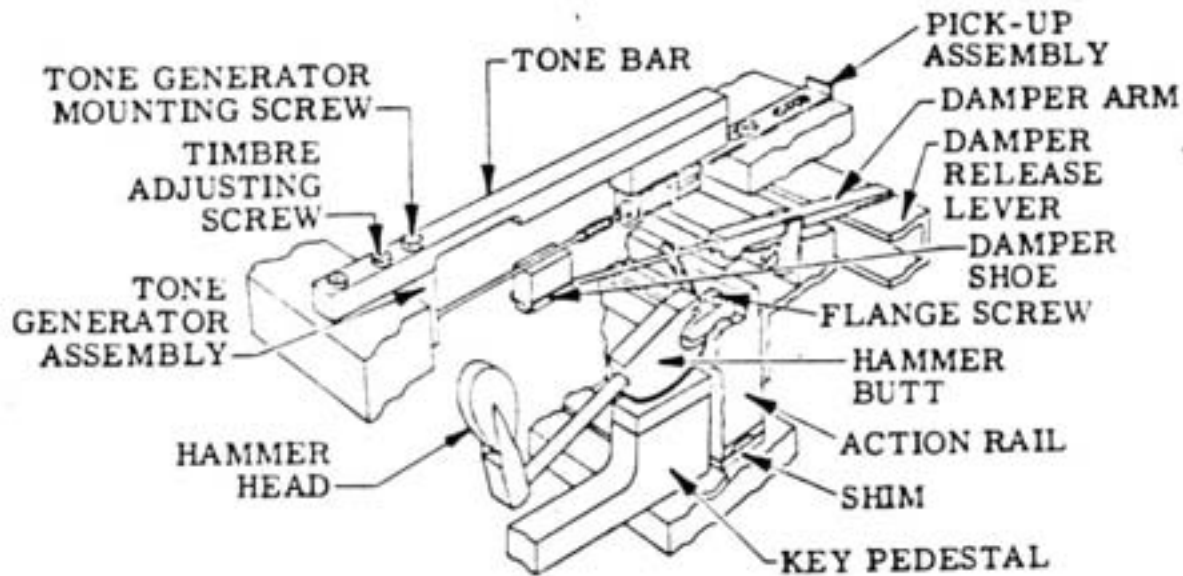
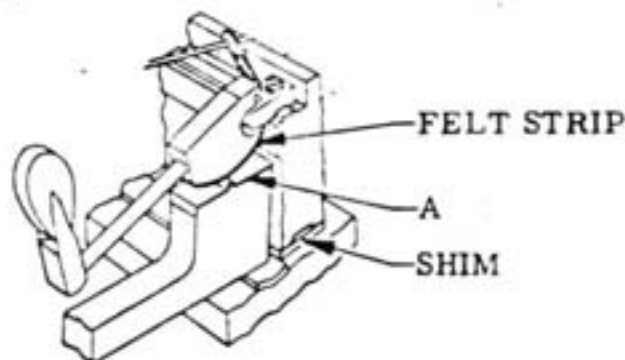
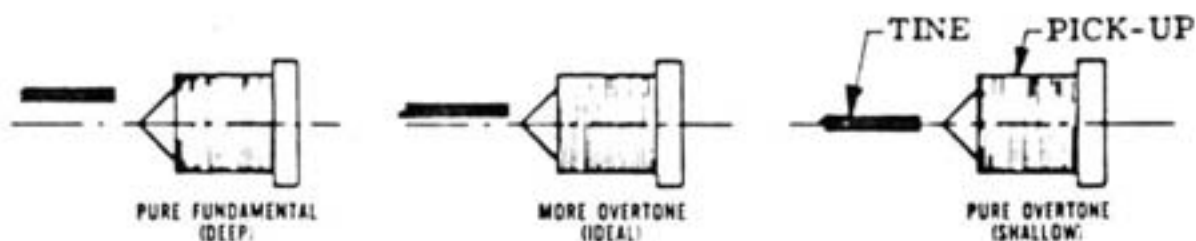

Figure 1
Figure 2
FIGURE 16
The original Hammer Assembly appeared as shown in Figure 1.
An interim change involved the insertion of an aluminum clip (A, Figure 2) on top of the Key Pedestal. This was done to increase the acceleration of the old Hammer design.
1. Suppose you have a Piano of the vintage depicted in Figure 1 and wish to bring it up to current sound standards. Proceed as follows:
1. Remove all Damper Shoes by sliding forward (Figure 1).
8. Carefully peel off the red woven Felt from the cam curve of the old Hammers, exercising care to leave a smooth, clean surface, and cement to the top of the Key Pedestal. This applies whether the Key is as shown in Figure 1 or Figure 2.
1. Remove all Tone Generator Assemblies by removing all Tone Generator Mounting Screws (Figure 1).
- Adjust Timbre Adjusting Screw (Figure 1) until working edge of Tine rests on a plane slightly above dead center with the Pick-Up as shown in Figure 16. Let your ear guide you in this.